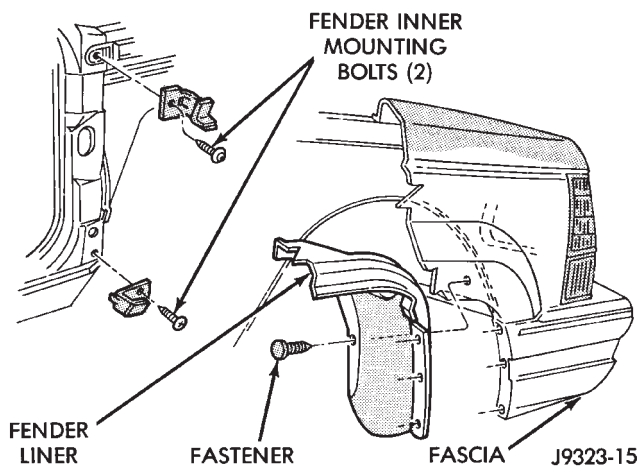

Fig. 23 Inner Fender Mounting
- (7) From inside wheel well, remove 2 bolts at rear of fender reinforcements (Fig. 23).